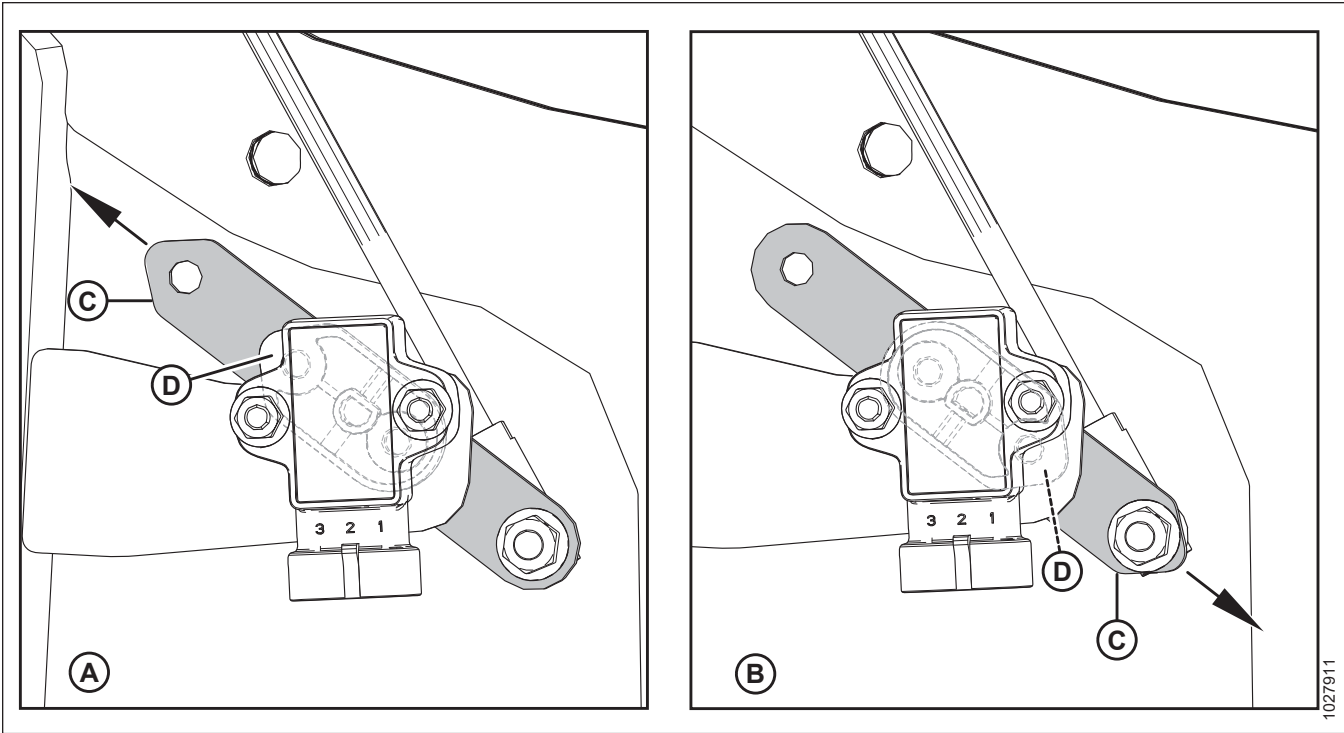

Figure 8.2: Sensor Arm/Pointer Configurations
Check that sensor arm (C) and pointer (D) are configured properly for your machine, refer to Figure 8.2, page 304.